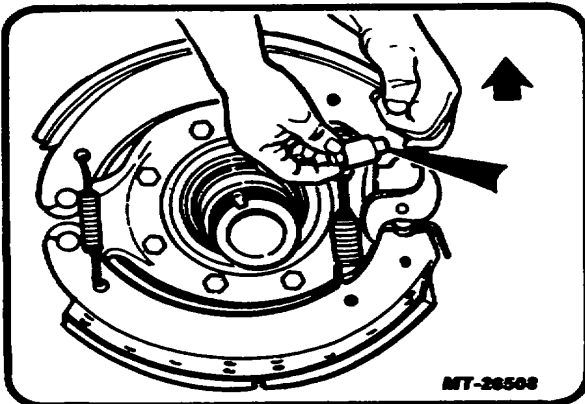

Fig. 13. Removing Upper Cam Roller
- Lift top shoe and remove the remaining cam roller assembly (Fig. 13).